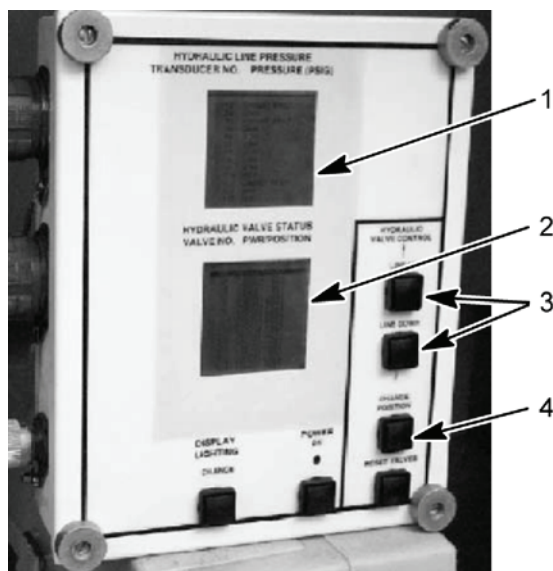
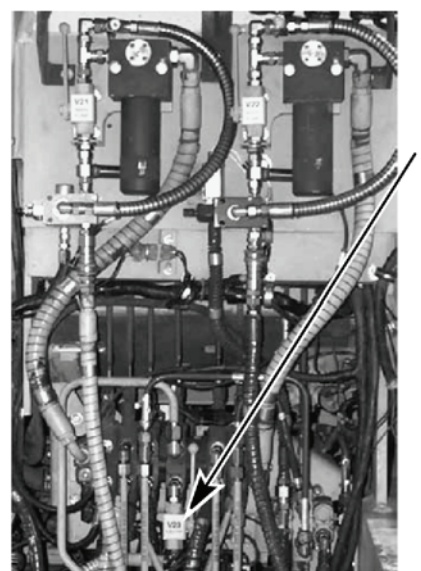

Figure 25. HDC Control Box
Figure 26. DCV Bank
- For 13L; repeat the previous steps for main relief valve 13L using the left-hand SUSPENSION CONTROL lever. Reference main relief valve 13L jam nut (Figure 27, item 3), adjusting screw (Figure 27, item 2), and pressure transducer T4 (Figure 25, item 1) on HDC display, when adjusting the 13L main relief valve.
- Enable ejector; manually open V23 (Figure 26, item 1) on the DCV bank. Using LINE UP or LINE DOWN button (Figure 25, item 3), select V1 on the HDC display (Figure 25, item 2). Open V1 on the HDC display (Figure 25, item 2) by selecting the CHANGE POSITION button (Figure 25, item 4) on the HDC control box.